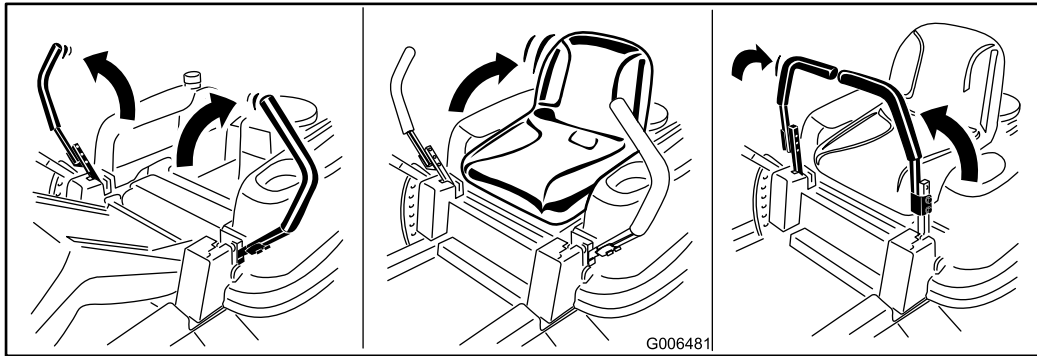

Figure 2
3. Open the motion control lever and raise the seat (Figure 2). Move the control levers back to the center position (neutral).